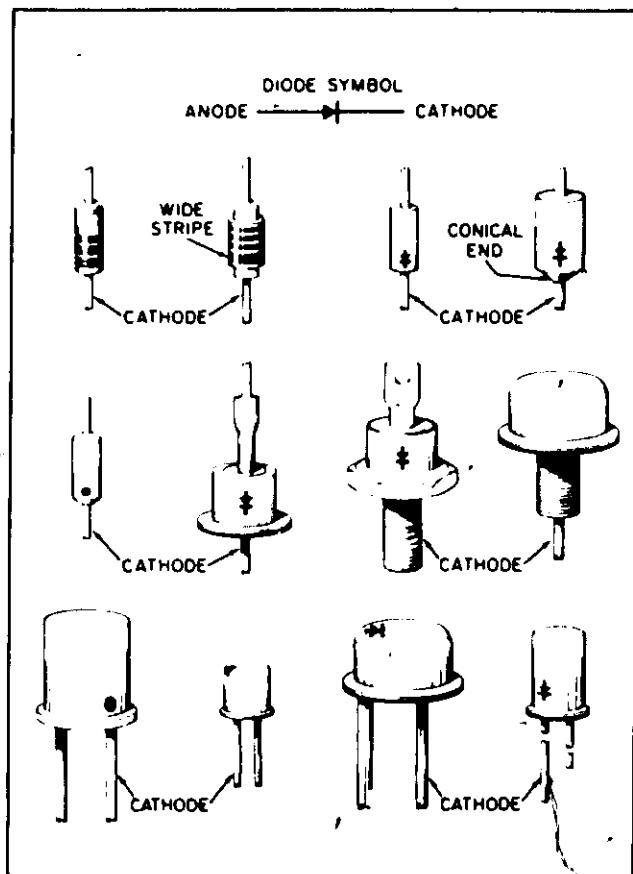

Figure 5-2. Examples of Diode Marking Methods
**5-26.** Solid state diodes are in many physical forms. This sometimes results in confusion as to which lead or connection is for the cathode (negative) or anode (positive), since not all diodes are marked with the standard symbols. Figure 5-2 shows examples of some diode marking methods. If doubt exists as to polarity, an ohmmeter may be used to determine the proper connection. It is